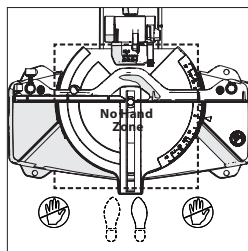

Fig. 7
**LICHAAMS- EN HANDPOSITIONERING (Fig. 7)**